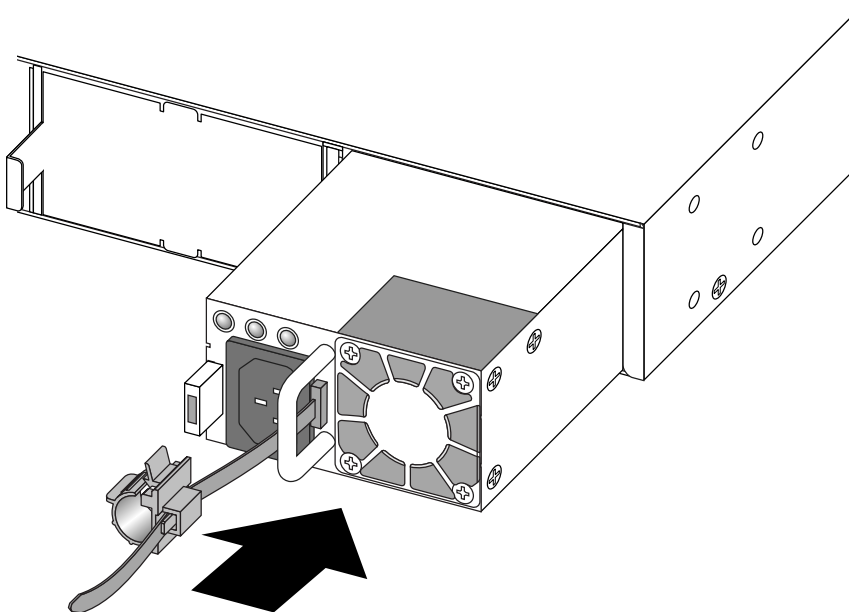

Figure 209: Installing a 750 W AC Power Supply in an EPS-C2 Chassis
3. Carefully slide the power supply all the way into the slot in the EPS-C2 chassis (see Figure 209).